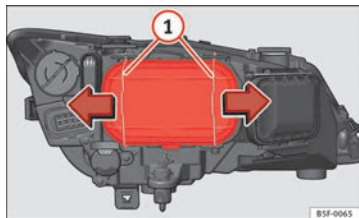

Fig. 133 Dipped beam headlights
- Move the loops ⇒ Fig. 133 ① in the direction of the arrow and remove the cover.